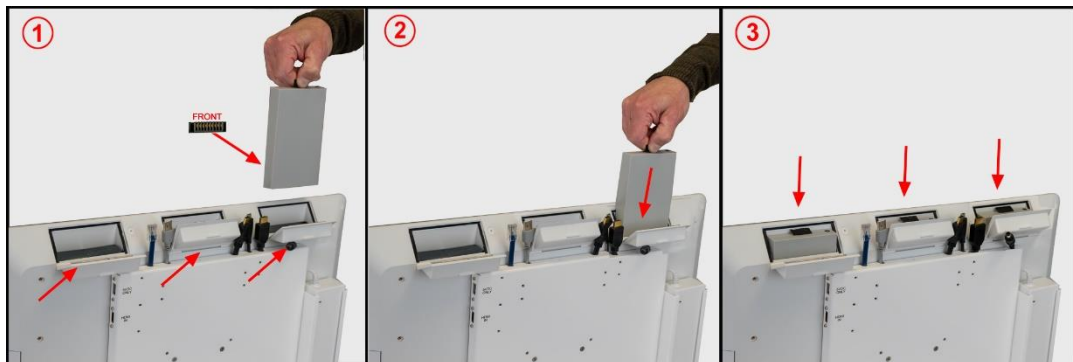

Figure 5. Installing the System Batteries
- Figure 5. Installing the System Batteries 12